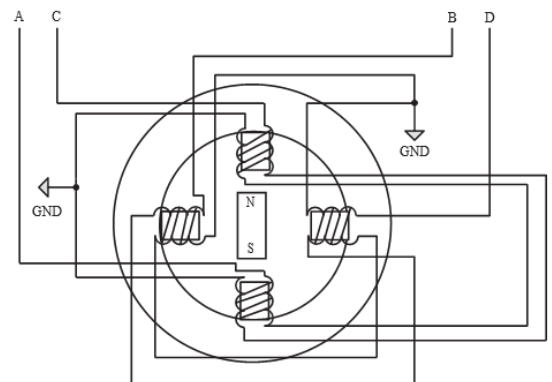

Fig. 2.19 Stator Winding details for a 2 Phase unipolar stepper motor
- It requires complex circuitry for current flow reversal. The stator winding details for a two-phase unipolar stepper motor is shown in Fig. 2.19.